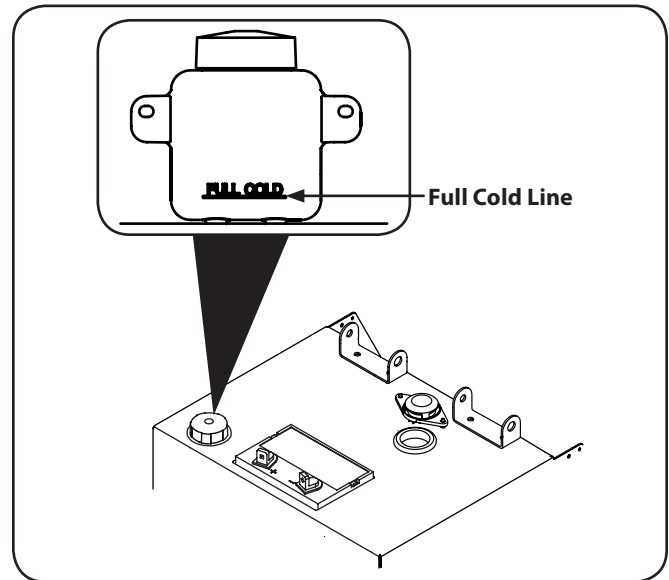

Figure 1-2
1. Pivot the operator's seat forward and clean the reservoir cap and the area around the cap to prevent debris from contaminating the transmission oil. See Figure 1-2.
2. Turn the reservoir cap counterclockwise to re-move, then check the oil level in the reservoir. Oil should be visible at the bottom of the cup, but the oil level must NOT be above the "FULL COLD" line. See Figure 1-2. DO NOT FILL THE RESERVOIR.